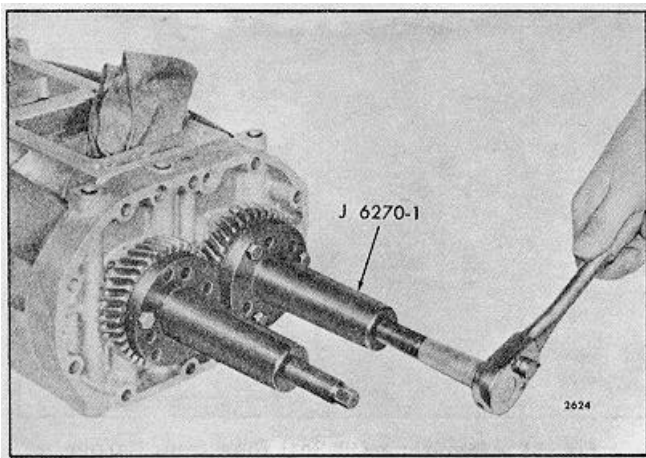

FIG. 7 - Removing Blower Gears
2. Remove the timing gears with pullers J 6270-1 (Fig. 7). Both gears must be pulled at the same time as follows:
- b. Turn the two puller screws uniformly clockwise and withdraw the gears from the rotor shafts as shown in Fig. 7.